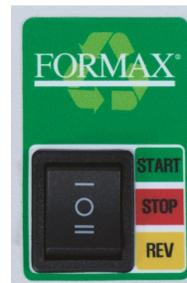

Fig. 2
3. Set main switch to the "START/-" position (Fig. 2). The perforating blades will begin moving.
5. To turn off the perforating mechanism, set the main switch to the "STOP/O" position (Fig. 2).
6. In case of a jam, press "REV/+" on the main switch (Fig. 2). The perforating blades will reverse to remove the jammed material. Check the material thickness, and re-feed if necessary.